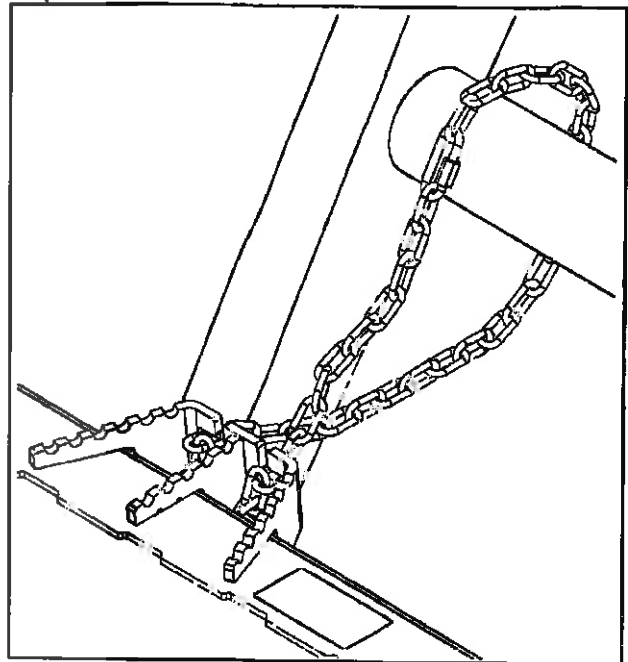

figure 1
2. Raise the sweeper and then dump the bucket slowly. The sweeper will dump correctly if chains have the proper tension. (figure 1) If the sweeper tips down when test dumping, go to step 3.